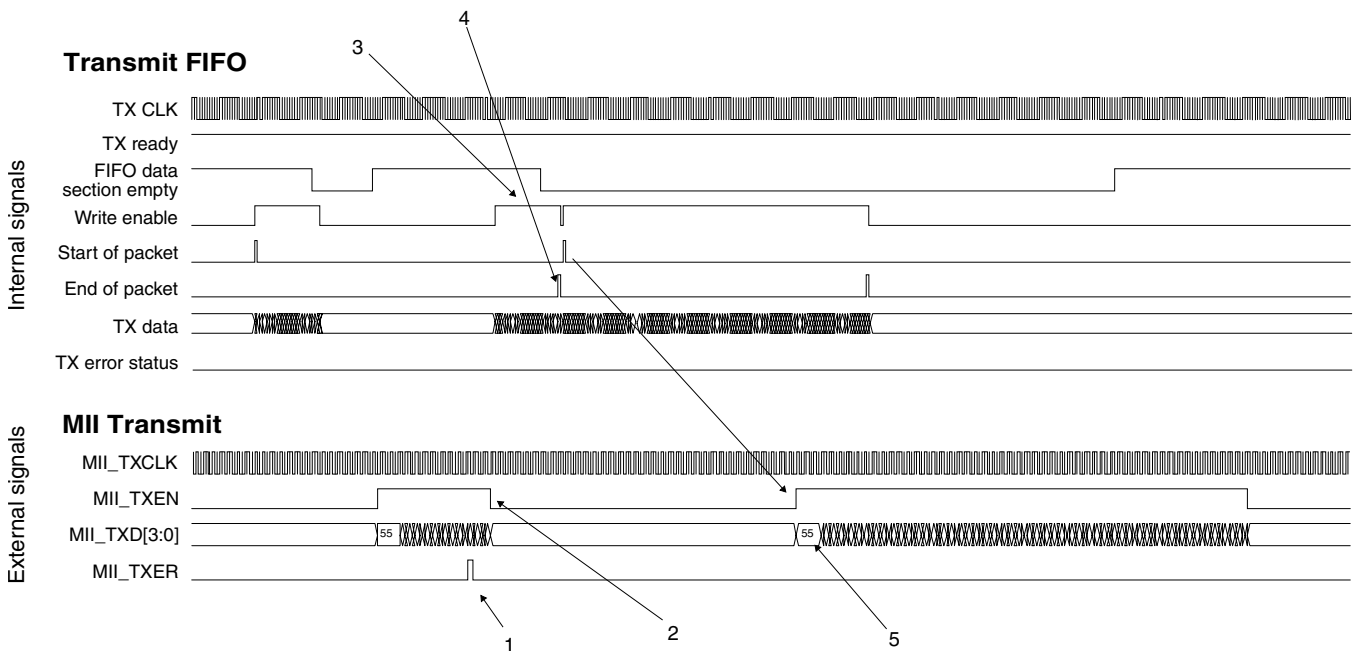

Figure 52-16. Transmit FIFO underflow protection
- Asserts the MII error signal (MII_TXER) (1 in Figure 52-16) to indicate that the fragment already transferred is not valid
- Deasserts the MII transmit enable signal (MII_TXEN) to terminate the frame transfer (2)